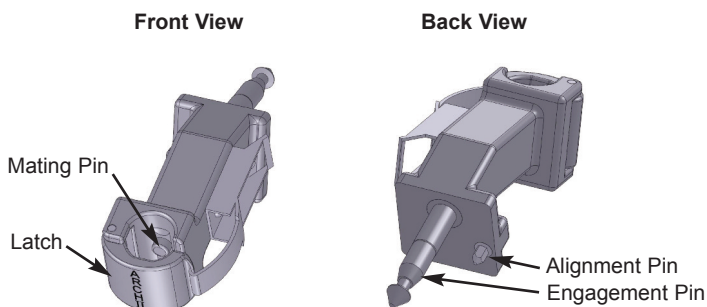

Figure 1. Advincula Arch™ Adapter
2. Insert the Adapter's Engagement Pin (see Figure 1) into the UPS arm's Mating Hole until secure. Use the Alignment Pin for proper orientation of the Adapter.